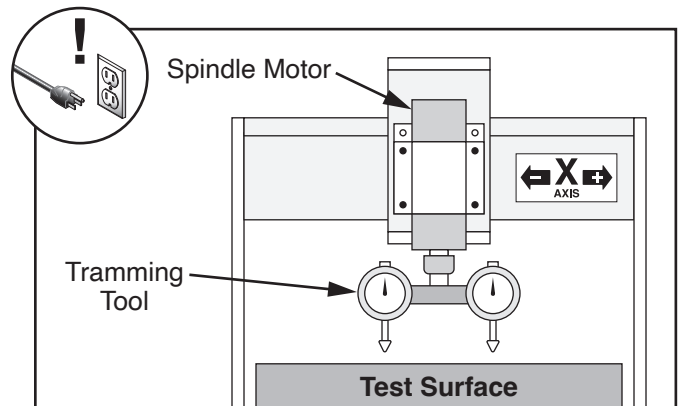

Figure 72. Example of spindle tramming components.
4. Insert tramming tool stem into collet, then insert collet in spindle and tighten collet nut to secure (see **Figure 72**).
5. Position tramming tool at center of table and verify tramming tool has been zeroed (see **Figure 72**).